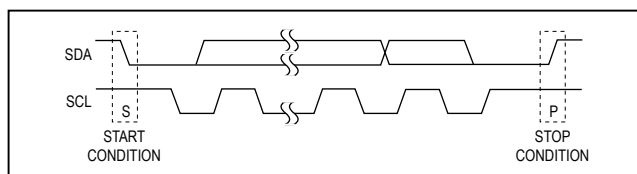

Figure 2. START and STOP Conditions
Each transmission consists of a START condition sent by a master, followed by the MAX7321's 7-bit slave address plus R/ $\overline{W}$ bit, 1 or more data bytes, and finally a STOP condition (Figure 2).
Both SCL and SDA remain high when the interface is not busy. A master signals the beginning of a transmission with a START (S) condition by transitioning SDA from high to low while SCL is high. When the master has finished communicating with the slave, the master issues a STOP (P) condition by transitioning SDA from low to high while SCL is high. The bus is then free for another transmission (Figure 2).